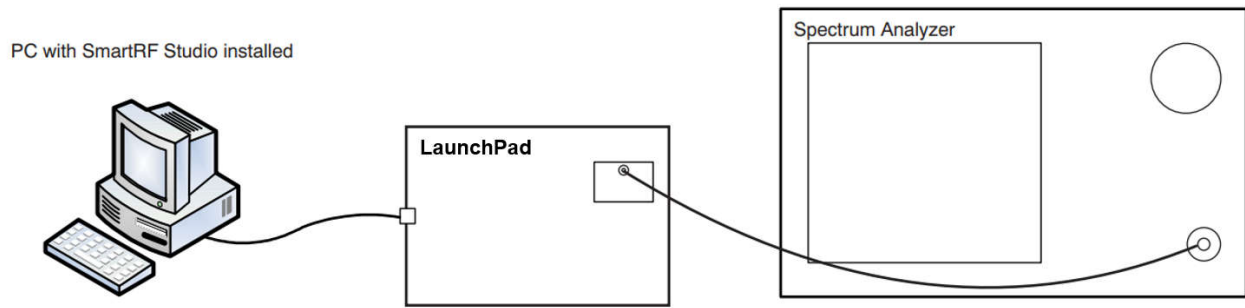
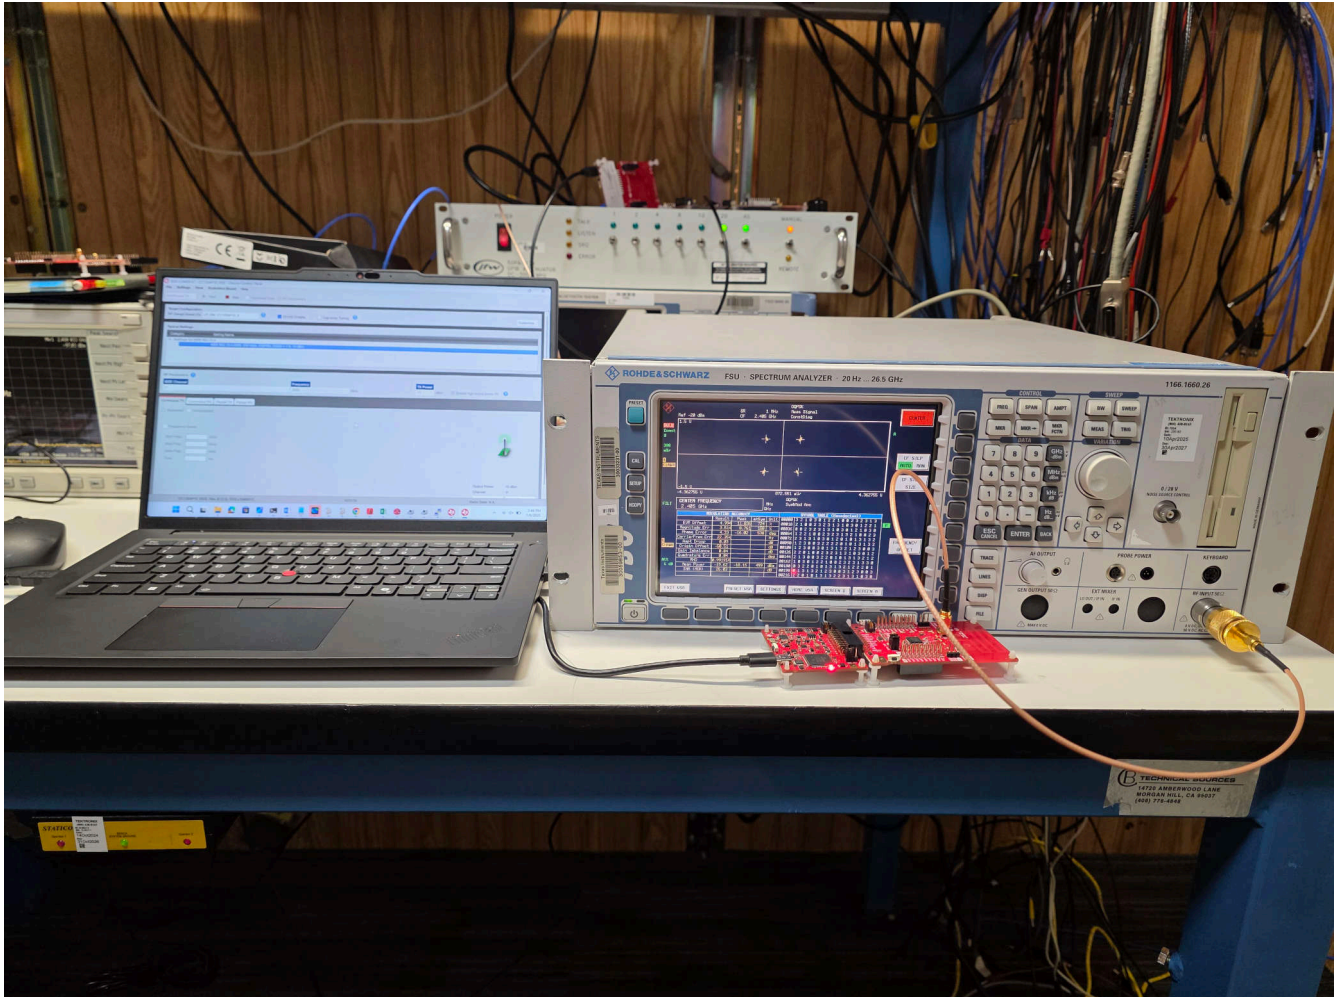
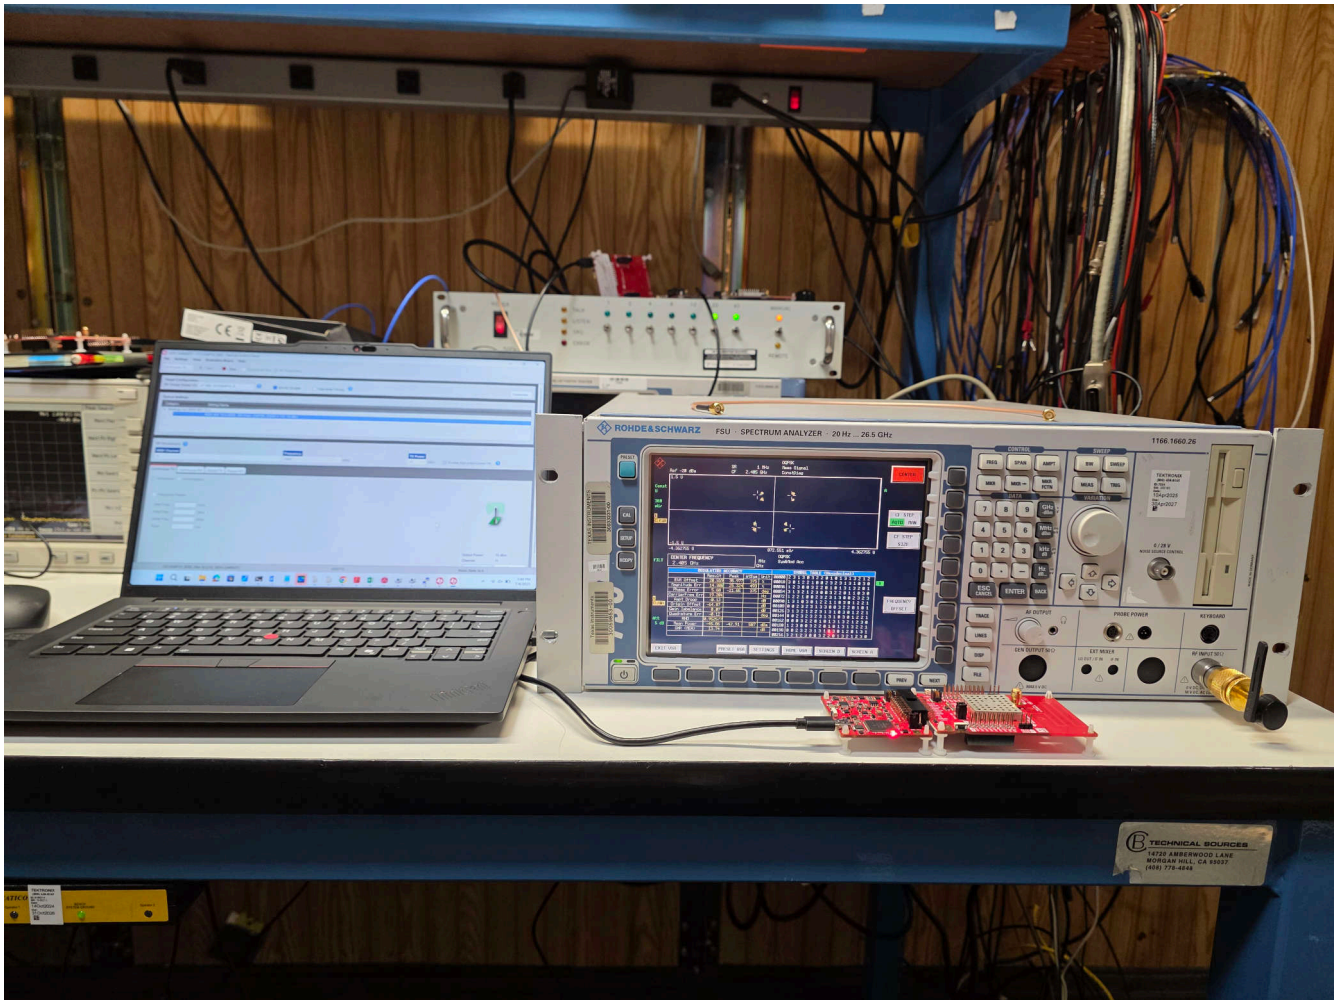

Figure 7-10. Error Vector Magnitude Test Setup Diagram
Figure 7-11. Error Vector Magnitude Test Bench Setup Using An SMA Connector
Figure 7-12. Error Vector Magnitude Test Bench Setup Using An Antenna
Test Environment: Figure 7-10 illustrates the setup for the EVM test. Figure 7-10
- Step 1: Connect the instruments as shown on Figure 7-10 and Figure 7-11, or with Figure 7-12, if using an antenna.